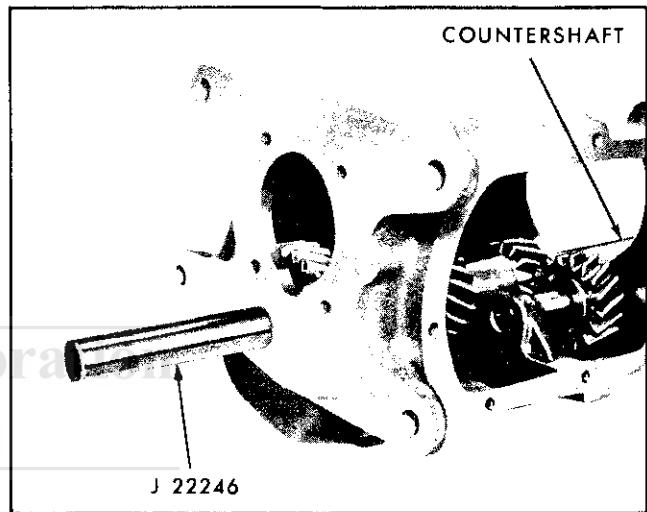

Fig. 7C-8 Removing or Installing Countershaft
9. Using snap ring pliers, expand snap ring at rear of extension housing which retains extension housing to mainshaft (Fig. 7C-7) and remove extension housing.